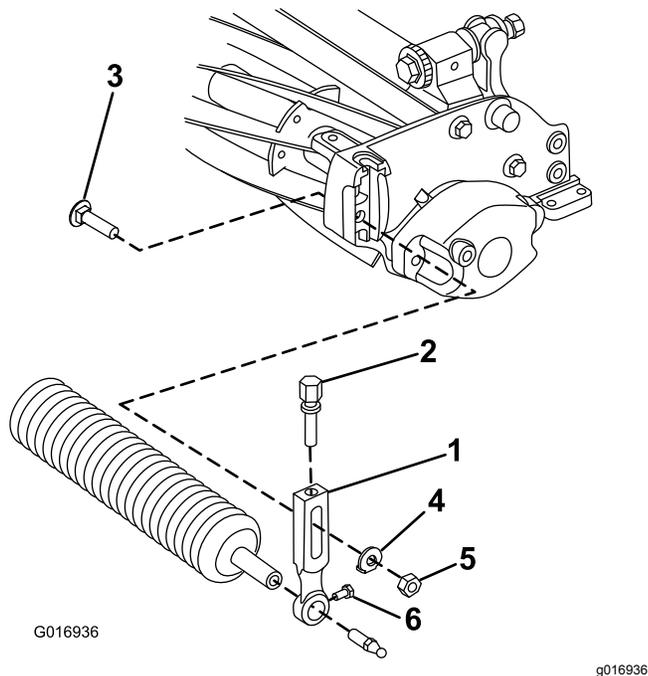

Figure 2
2. On the cutting unit, loosen the mounting screws securing each end of the front roller to the height-of-cut arms (Figure 2).
3. Remove the plow bolts, washers, and locknuts securing the height-of-cut arms to each end of cutting unit (Figure 2). Remove the height-of-cut arms and roller assembly.
4. Remove the height-of-cut adjusting screws and roller-mounting screws from the height-of-cut arms (Figure 2).